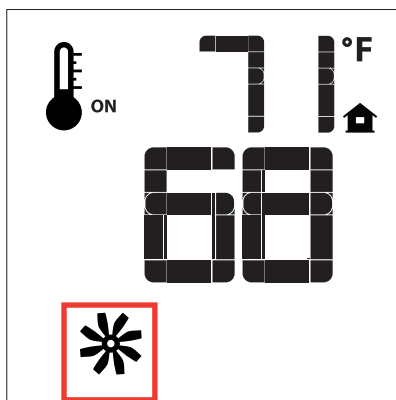
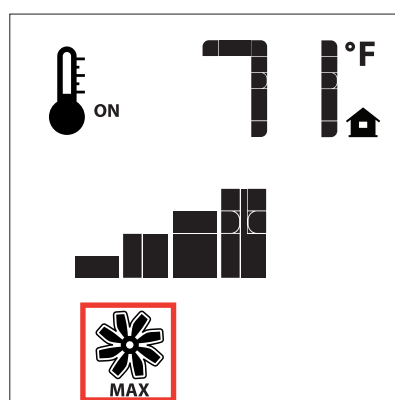

Fig. 14
Fig. 15
The fan speed can be set from off to one of four (4) levels. To activate this function use the Mode key to set the relevant icon on the display, see Fig. 14. Then use the UP/DOWN arrow key to set the desired fan speed or turn off, see Fig. 15. An acoustic signal is generated to confirm the reception of the command.